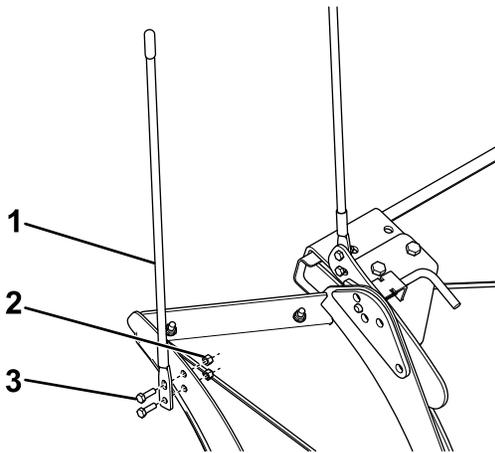

**Figure 12**
18. Loosely attach the plow wing cutting edge to the plow wing using 2 carriage bolts (5/8 inch), a mounting plate, and 2 nuts (Figure 12).